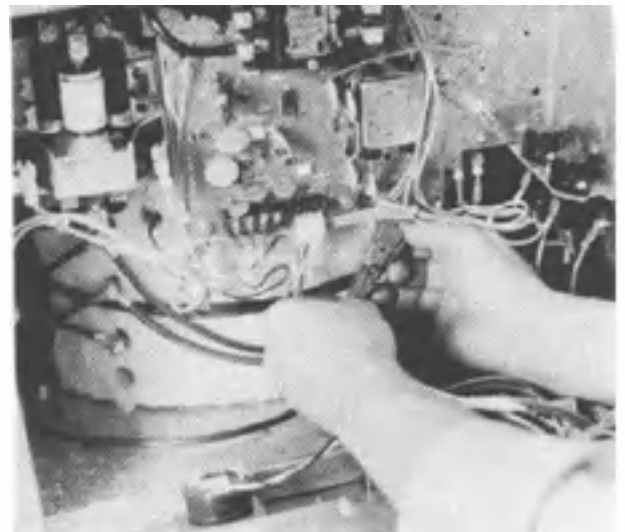

FIG. 6
3. Remove the four (4) screws securing escutcheon to relay panel and save for reuse. Lower escutcheon slowly until secure in open position.
5. Disconnect probe assembly from extension wire (See Figure 6 on following page).
4. Disconnect probe assembly from extension wires (See Figure 6).